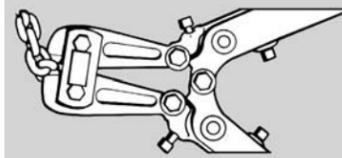

Figure 18. Cutting Chain with a Bolt Cutter
- (3) Chain may also be cut using a bolt cutter (Figure 18) similar to the H.K. Porter No. 0590MTC with special cutter jaws for cutting hardened chain (1 inch., 25.4mm) long cutting edge).